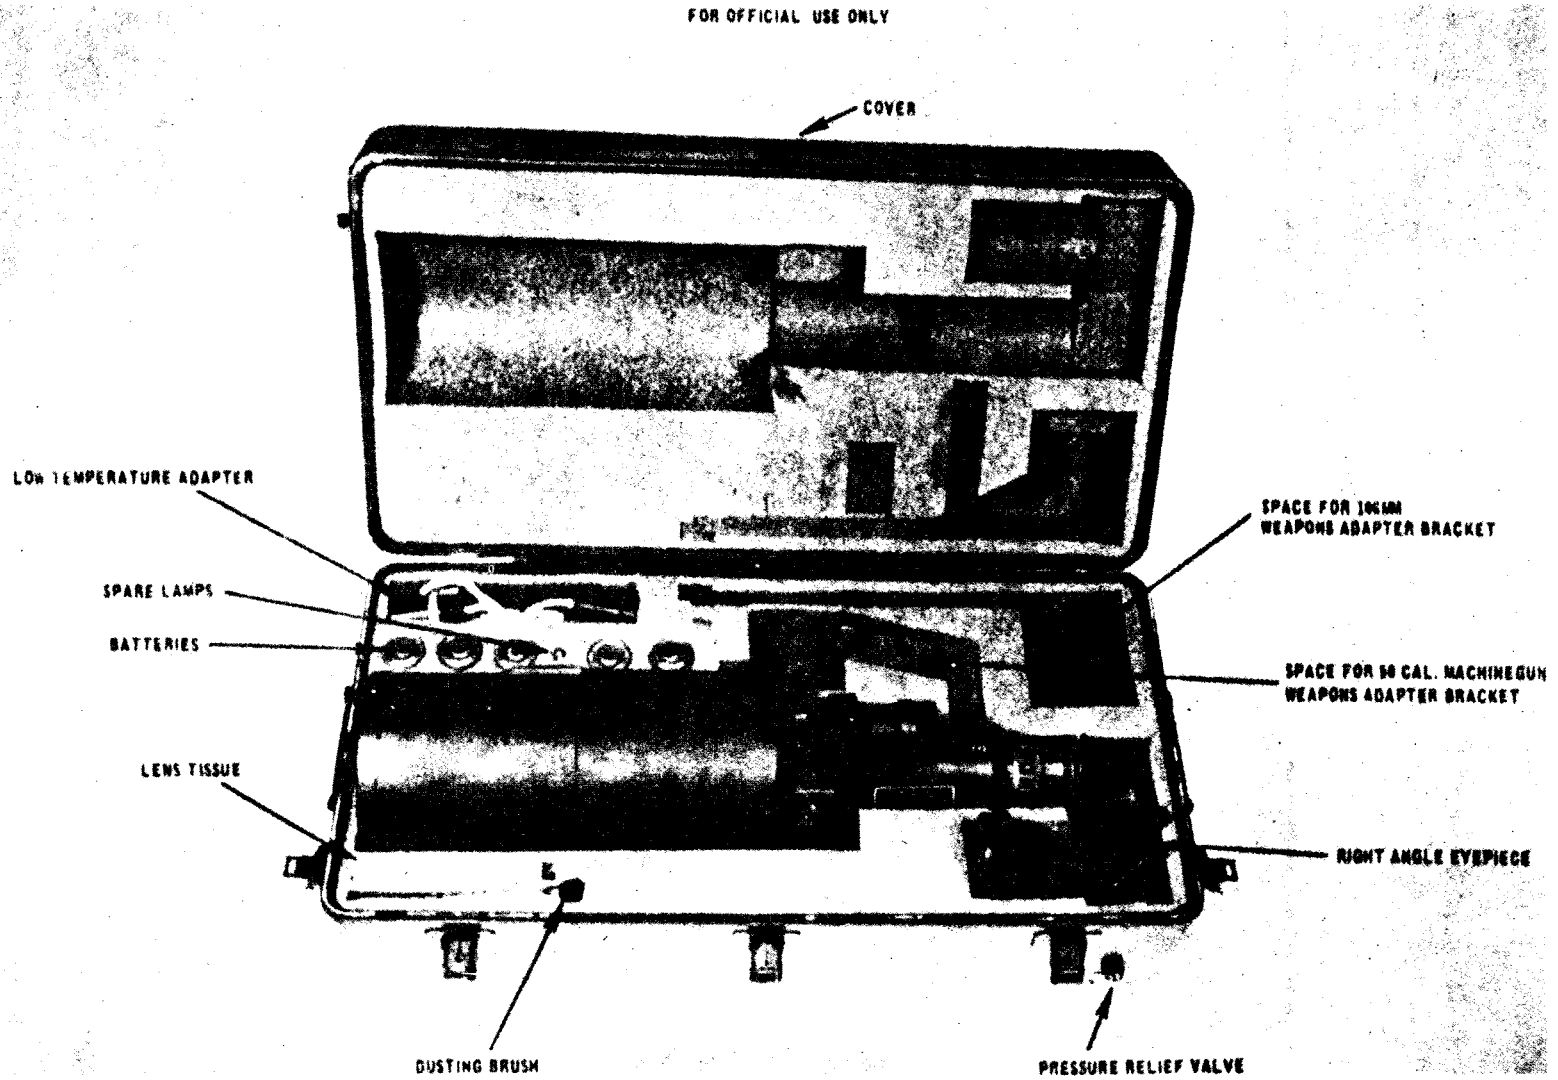

Figure 1. Carrying case with components.
*b. Carrying Case.* The carrying case is a metal container (fig 1) designed to carry the Sight, in-line and right angle eye pieces, dusting brush, lens tissue, low temperature adapter, two spare lamps, five batteries, and weapons adapter brackets for the Browning machinegun caliber .50 HB M2 and the 106-mm recoilless rifle M40A1. The case has eight latches, two carrying handles, and a pressure relief valve. Foam rubber liners are provided for protection of the Sight and its components. The carrying case with liners allows the Sight to be